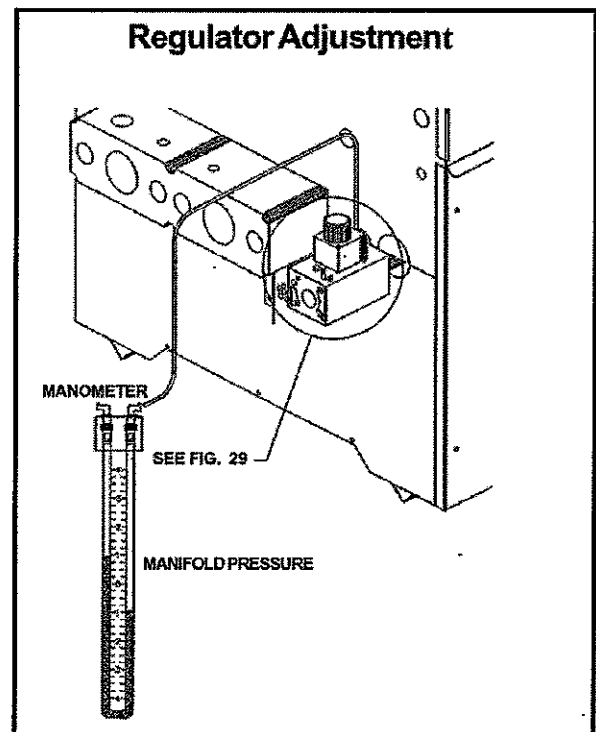

FIG. 26 Manometer Connection for Manifold Pressure Adjustment
4. Remove the 1/8" hex plug, located on "outlet" side of the gas valve and install a fitting suitable to connect to a manometer or magnahelic gauge. See Figure 26. Minimum range of scale should be up to 5" w.c. for natural gas and 10" w.c. for propane gas.